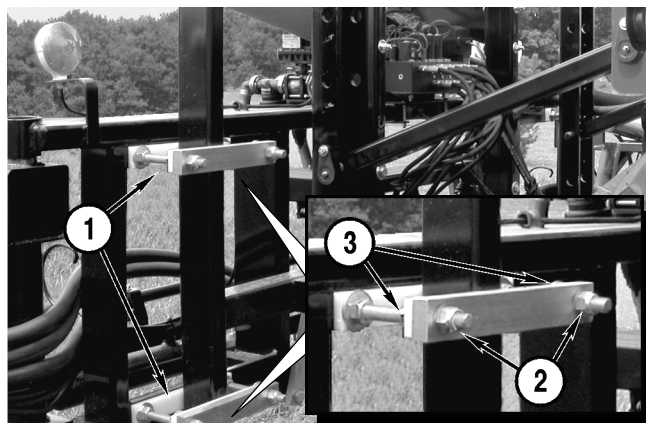

Figure 5-4
There are four boom stabilizers mounted on the boom rack. The upper and lower right-side stabilizers are shown (**Figure 5-4, 1**).
1. Loosen both lock nuts (**Figure 5-4, 2**) on the stabilizer.
2. Equally adjust the jam nuts (**Figure 5-4, 3**) until the gap is correct.